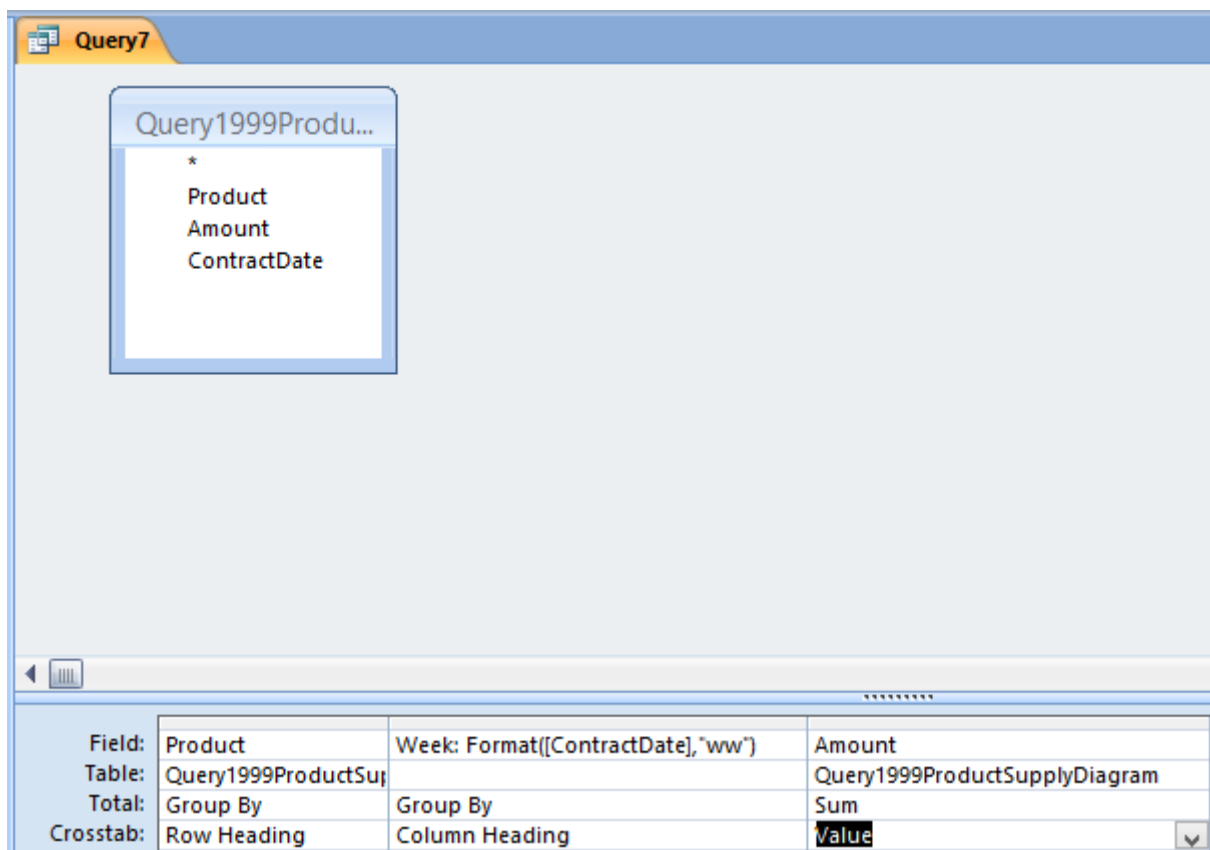

Figure 6.8
- 5) Select “Amount” field, set the “Sum” operation as total, and set it to be value (figure 6.8);